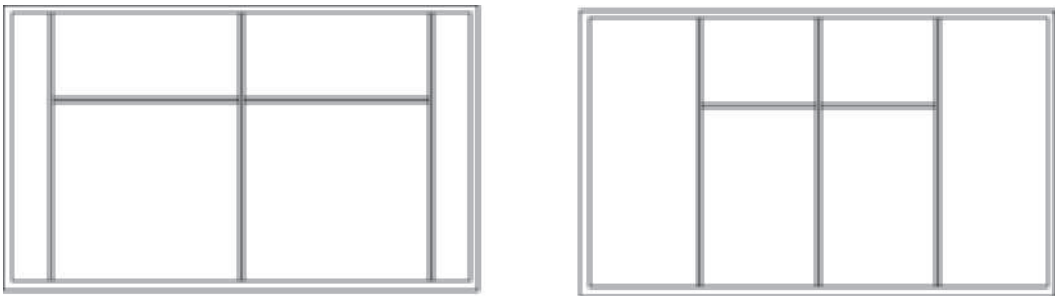
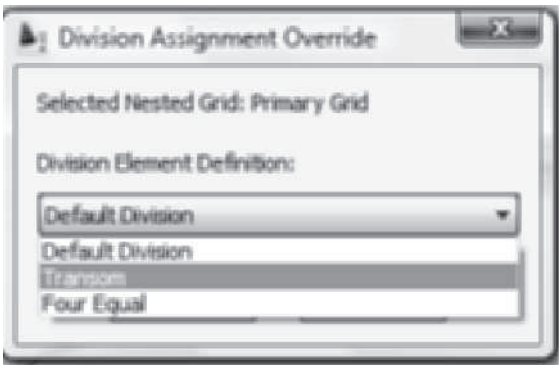

FIGURE 6.24 *Overriding a door/window assembly division definition*
FIGURE 6.25 *Editing the division of the door/window assembly*
This allows you to change how the unit is divided without editing the style definition. In Figure 6.24 the door/window assembly on the left was edited to create four equal divisions. The division definition must exist in the style prior to selecting the **Override Assignment**. The division definitions are included in the drop-down list shown in Figure 6.25.
3. Select a division definition from the drop-down list of the **Division Assignment Override** dialog box as shown in Figure 6.25. The **Four Equal** division element definition was previously defined in the style.
4. Click **OK** to dismiss the **Division Assignment Override** dialog box. Divisions of the unit are changed to four equal divisions as shown in Figure 6.24.